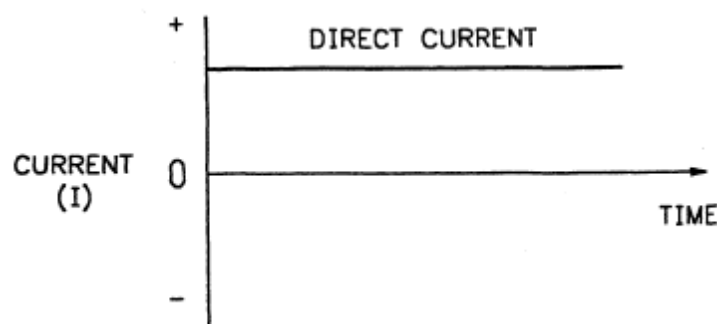

Figure 1 - A graph of direct current
3. It is frequently necessary to describe a voltage or current by graphing its value over a given period of time. Direct current maintains the same magnitude and polarity over time, and can be represented as shown in Figure 1.